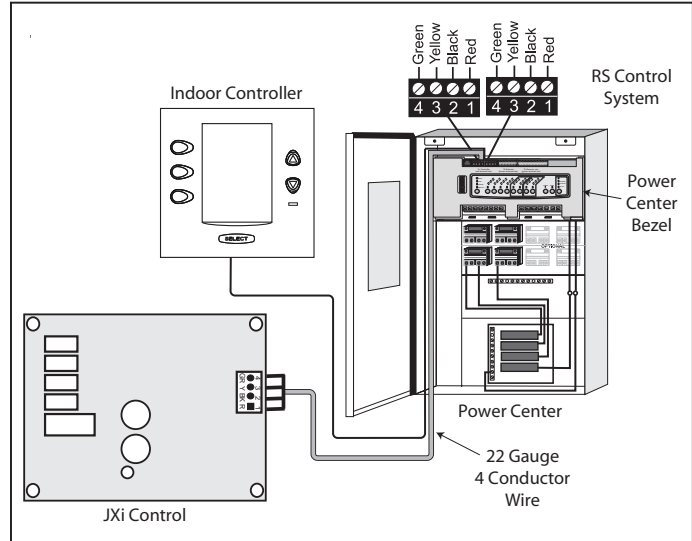

**Figure 14. PCB with firmware REV MMM or lower**
**NOTE:** Only an AquaLink® RS System with firmware revision “N”, or higher, will support the heater interface. Refer to *Table 5* along with *Figure 14* and *Figure 15* to determine the REV of your system’s firmware. If it is “N” or higher, continue with these procedures. If it is MMM or lower, follow the procedures in *Section 7.2* for connecting to a remote TSTAT.